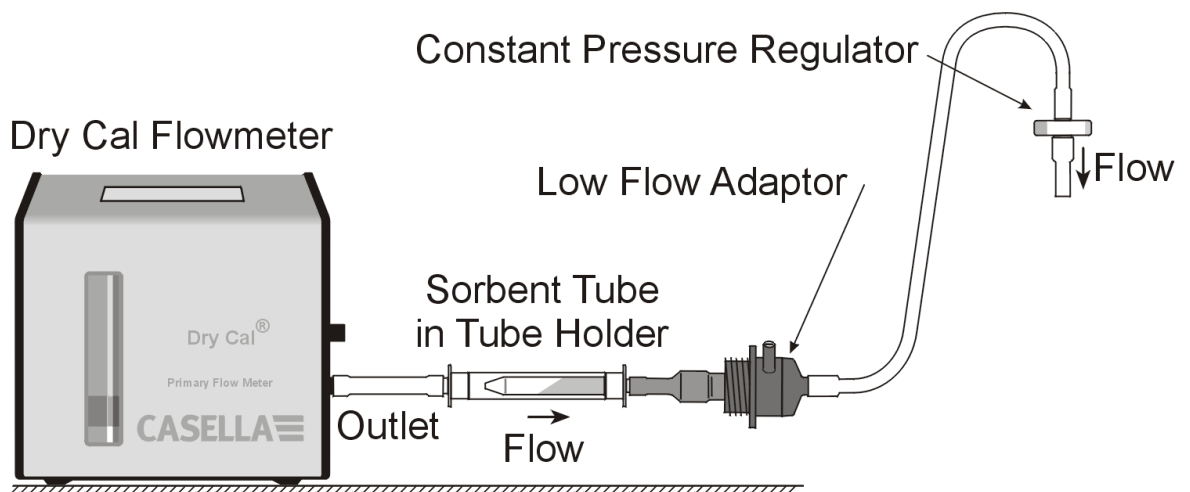

Figure 14 Use with Low Flow Adapter
This example assumes the intention is to run the pump for 4 hours, then pause for 1 hour, and then resume running for another 4 hours. Use the UP/DOWN keys to step through the Stop Mode Menu Options (See Fig. 14 for details) until PRG1 screen is displayed.
### K.USE WITH LOW FLOW ADAPTOR (Fig 14)
3. Starting from the TUFF inlet, connect the following: constant pressure regulator, low flow adaptor, sorbent tube holder and a flow meter such as the Dry Flow or Dry Cal shown in Figure 14.